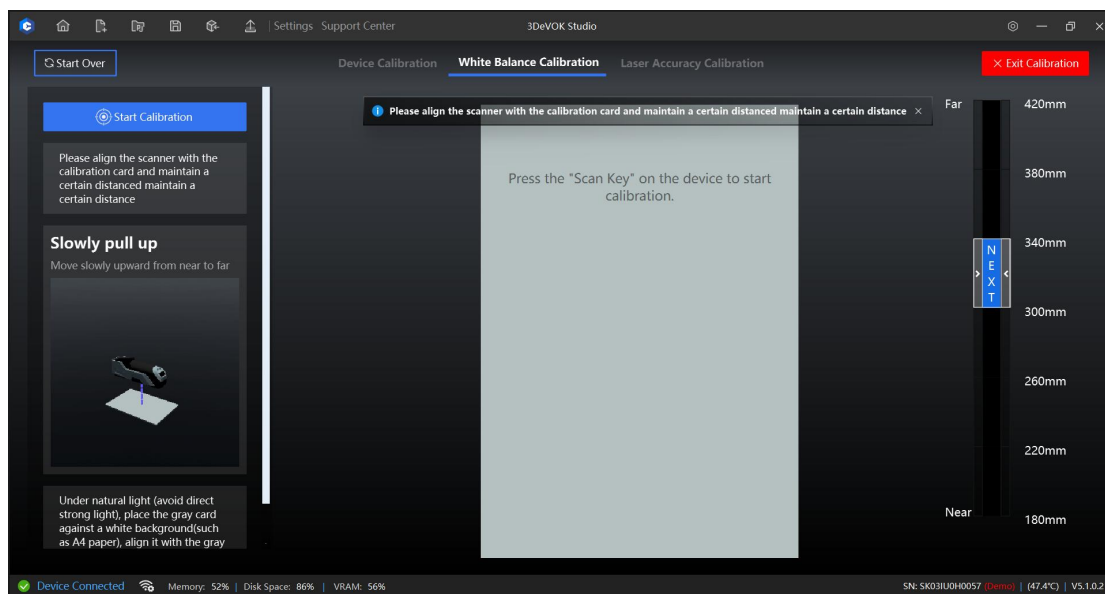

Figure 6-4 White Balance Calibration
2. Click the "Start Calibration" button on the top-left or the  button on scanner's touchscreen, and process the calibration following the on-screen instructions, as shown in Figure 6-4.